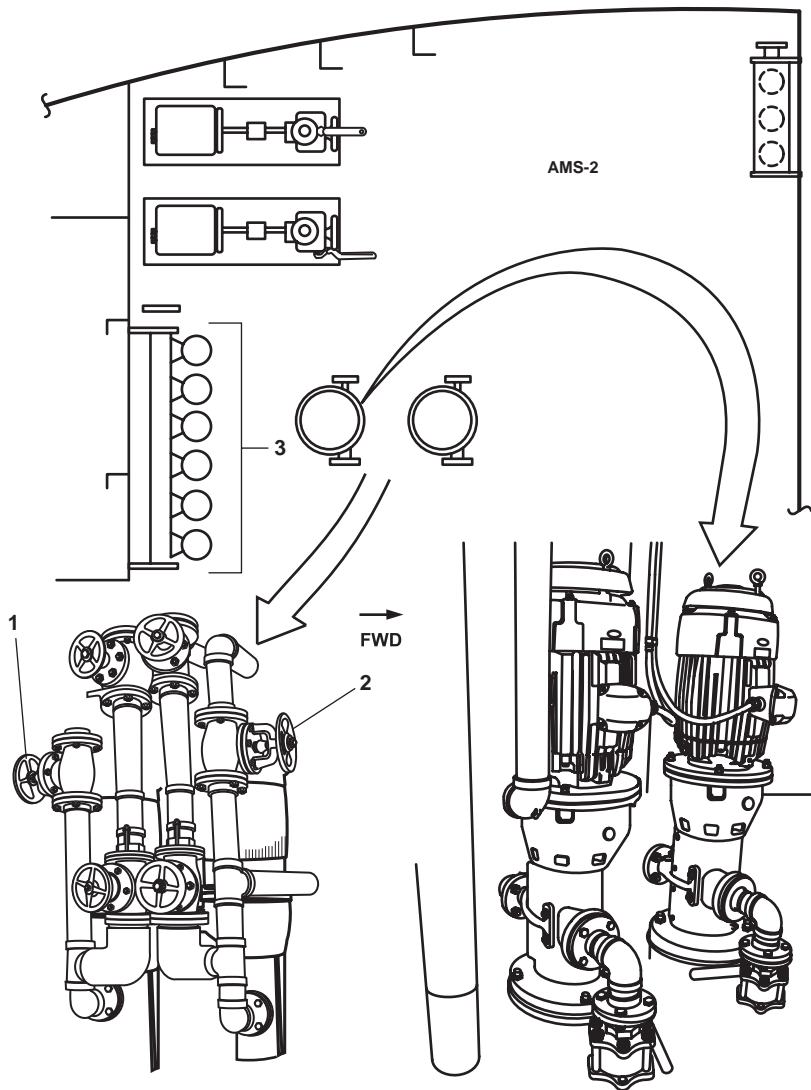

Figure 1. Emergency Bilge Pumping Valve Locations
- a. FM-16, FIRE/G.S. PMP No. 1 DISCH TO FM (figure 1, item 1)
- b. FM-17, FIRE/G.S. PMP No. 1 DISCH TO GS (figure 1, item 2)